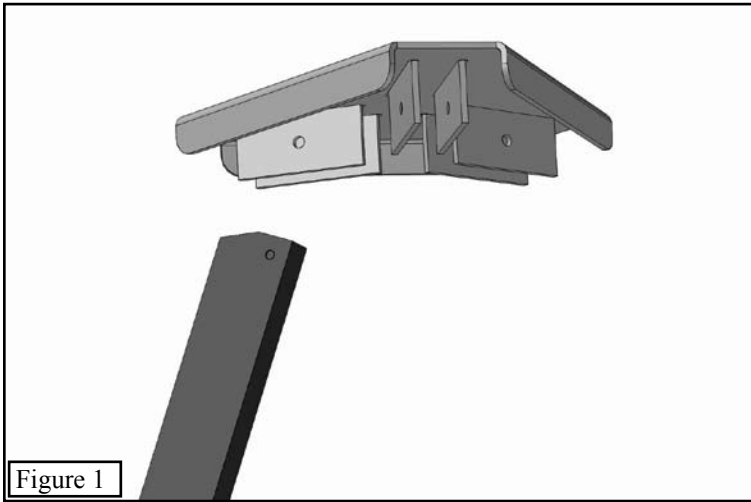

Figure 1
**Step 1.** Orient the base plate and one leg as shown in **Figure 1**.